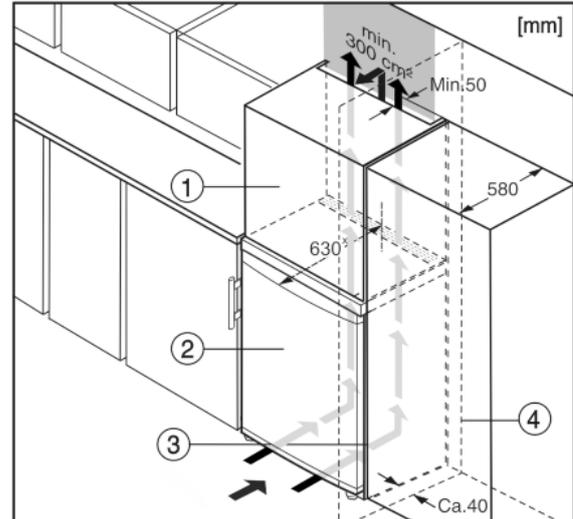

Fig. 8
The appliance can be built into kitchen units. A top cupboard Fig. 8 (2) can be added above the appliance in order to bring the appliance Fig. 8 (1) up to the height of the fitted kitchen units.
When installing with kitchen units (max. depth 580 mm), the appliance can be positioned directly next to the kitchen cabinet Fig. 8 (3). The appliance will project by 34 mm\* at the sides and 50 mm\* in the centre of the appliance in relation to the kitchen cabinet front.
If the appliance is installed with the hinges next to a wall Fig. 8 (4), the distance between appliance and wall has to be at least 40 mm. This corresponds to the projection of the handle when the door is open.